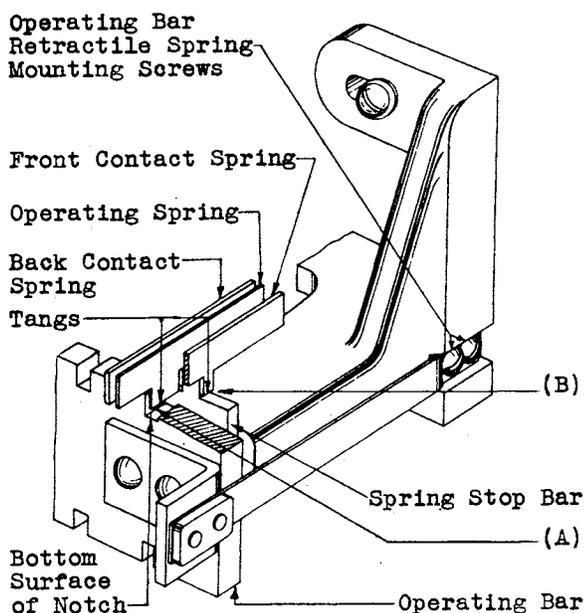

Fig. 8
(a) - Fig. 8 (A) - The operating spring tang shall engage with the notch in the operating bar min.  $1/32$ " and shall clear the bottom of the notch. Gauge by eye.
(b) - Fig. 8 (B) - The contact spring tang shall engage with the notch in the spring stop bar min.  $1/32$ " and shall clear the bottom of the notch. Gauge by eye.